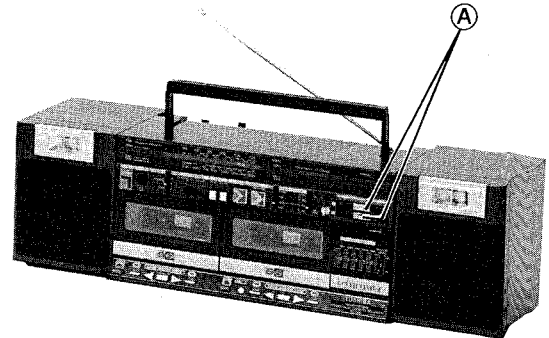

Figure 3
1. Remove two volume knobs (A) on front cabinet. (Figure 3)
3. Pull out connector leads (F), (G), and (H). (Figure 3)